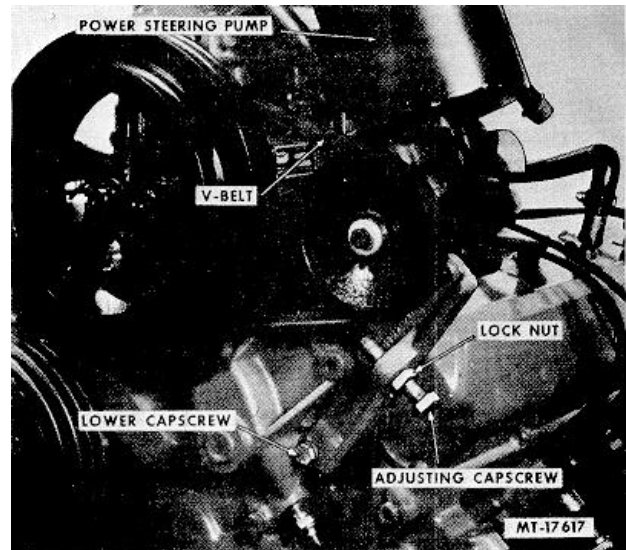

Fig. 17
13. Loosen power steering pump adjusting capscrew nut. Then back off adjusting screw (Fig. 17). Loosen bracket lower capscrew and two capscrews on the back side of the bracket. Remove power steering belt.